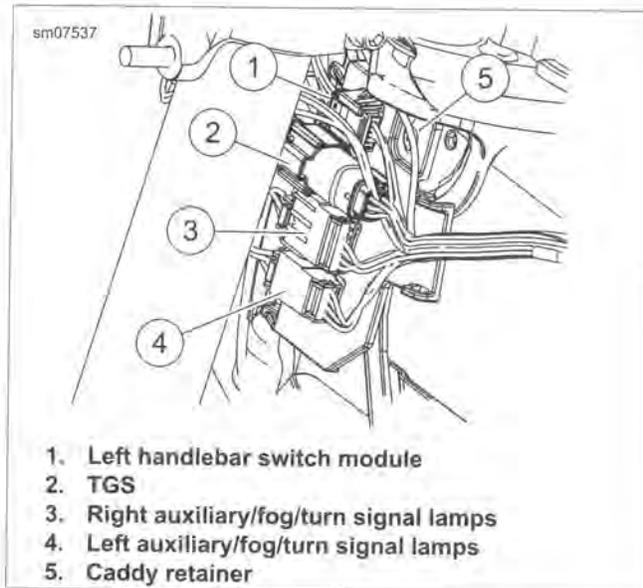

Figure 7-16. Left Side Connectors: Road King
- a. **Road King models:** See Figure 7-16. Disconnect auxiliary/fog lamps connector (2 or 3).
- See Figure 7-16. Disconnect both lamp connectors (3, 4) located on left steering head.
- c. See Figure 7-16. Pull harnesses up through openings in lower fork bracket.